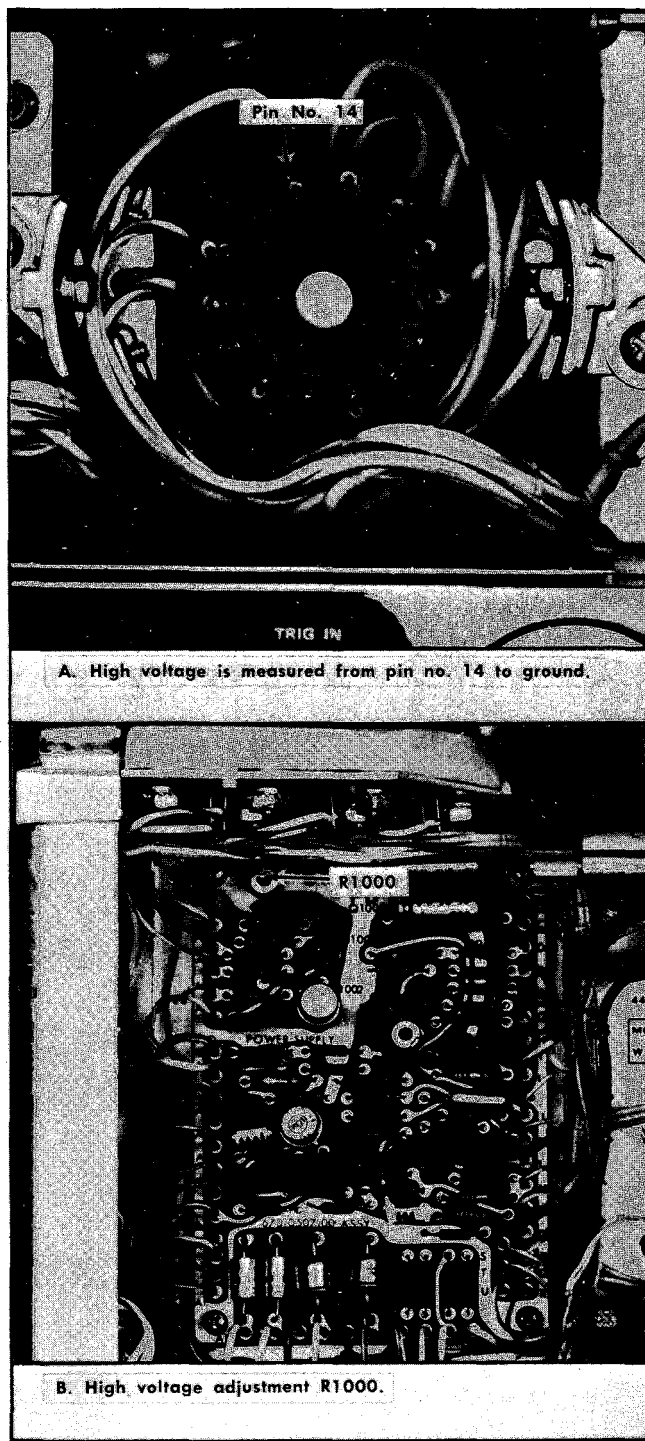

Fig. 6-6. Adjusting the - 3670 V supply.
c. Connect the voltmeter between pin 14 of the CRT base socket and chassis ground. (See Fig. 6-6). Set the voltmeter range to measure approximately 4000 volts.
d. Turn the POWER switch to ON and adjust the High Voltage Adj R1000 (Fig. 6-6) for a meter reading of -3670 volts.